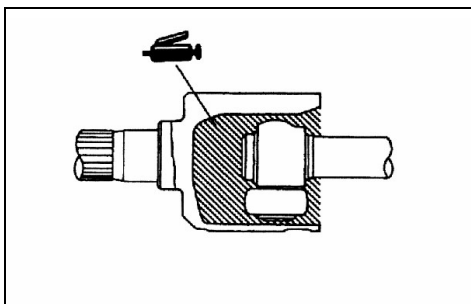

Fig.12-30
- (3) **The drive shaft joint uses special grease. Do not mix old and new or different types of grease.**
- (4) **If the spider assembly has been cleaned, take special care to apply the specified grease.**
c. After applying the specified grease to the T.J. case, insert the drive shaft and apply grease one more time.(see Fig.12-30)。